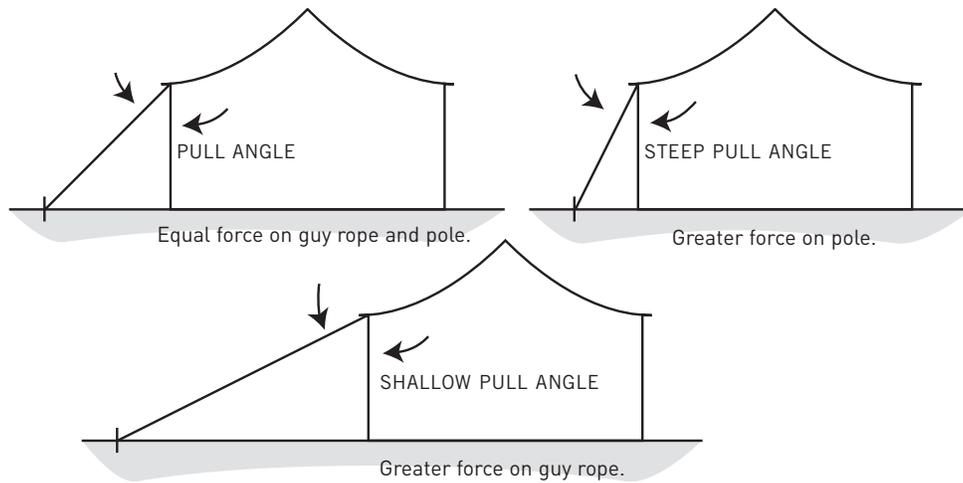

Figure 14. Pull Angles and Stake Location
A number of factors must be taken into account in the process of finding the right angle in any given situation. (See Figure 14.) Significant factors include:
- Note: When staking against wind lift forces, the guy rope must be at an angle that will keep the side poles from jumping. Consequently, the stake should be located relatively closer to the tent. A pull angle of 45 degrees produces vertical forces on the stake which are equal to the lateral forces. At 45 degrees or slightly steeper, the pole tent could reasonably be expected to withstand the forces of wind uplift while maintaining a balance between vertical and lateral stake forces. If alternate side pole heights are used, that should be taken into account in maintaining proper guy rope angles. (See figure 14.)